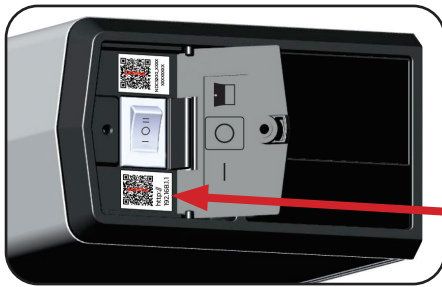

Figure 15
- Use the camera application on your smart device to scan the Product Website QR Code located on the switch end cap of the operator. (Figure 15)